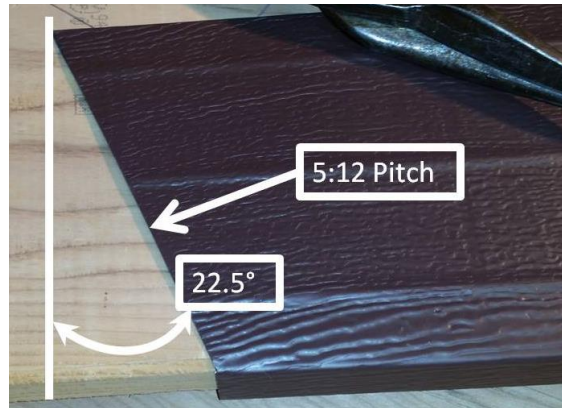

Figure 11-16. Gable Peak Front Side Fascia.
16. Measure from the end of the lower fascia piece to the peak and add 1½". Measure this distance from the appropriate factory edge and mark the top edge. Align the speed square 90° corner with this mark to mark and cut the necessary angle. See Figure 11-16 for the right-hand peak end cut.